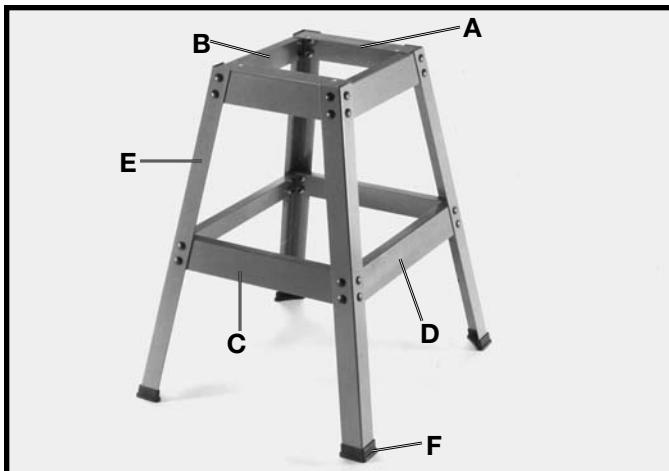

Fig. 4
1. Assemble the stand, as shown in Fig. 4, using the 32 M8x20mm Carriage head screws, 3/8" flat washers and M8 hex nuts supplied. The two 10-3/4 long upper braces (A); 13-9/16 long upper braces (B); 15-3/4 long lower braces (C); and 18-5/16 long lower braces (D) should be fastened to the four legs (E). Insert the carriage bolts through the legs and braces, place flat washer on carriage bolt and secure with nut. **IMPORTANT:** The top lips of the two upper braces (A) should be on top of the top lips of upper braces (B).
2. Assemble the four feet (F) Fig. 4, to bottom of each leg (E), as shown.